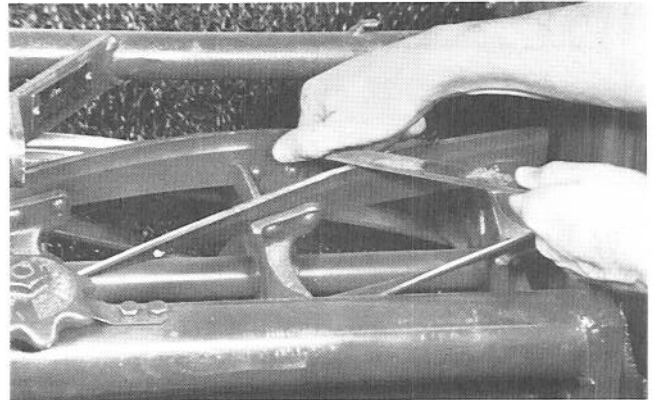

Figure 15
5. Hitting a Foreign Object — The bedknife and reel cutting edges can be damaged if a foreign object is hit. The damage, if it is not too severe, can be repaired in the field. Start by filing down high spots on the bedknife and reel (Fig. 15). Use a ball peen hammer to straighten any reel blades that may be bent. Since bedknife usually springs away from the reel upon impact, bedknife must be adjusted: refer to Parallel Bedknife to Reel, page 6.